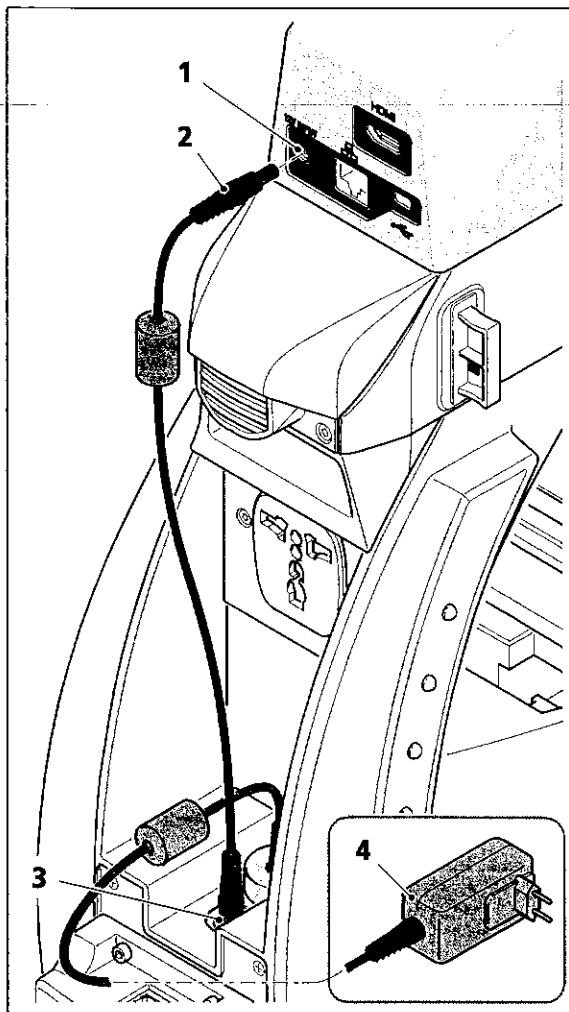

Fig. 5 Connecting the 12 V interconnection cable
- Insert the plug (Fig. 5/2) of the 12 V interconnection cable into the connection socket labeled "12V INPUT" (Fig. 5/1) located on the rear of the Binocular tube 30°/20 with integrated HD IP camera.
- Insert the plug on the other end of the 12 V interconnection cable into the connection socket labeled "OUTPUT DC 12V" located on the rear of the stand (Fig. 5/3).
- Connect the plug-in power unit (Fig. 5/4) with a power outlet.